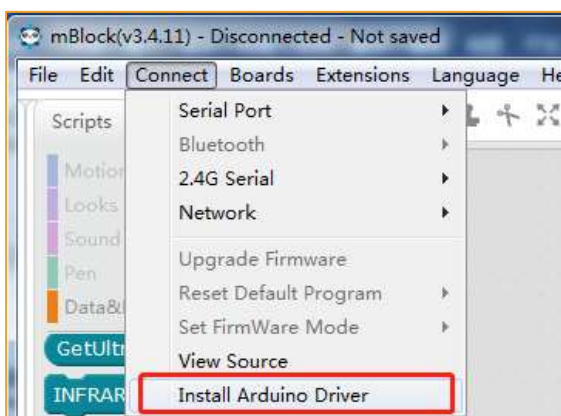
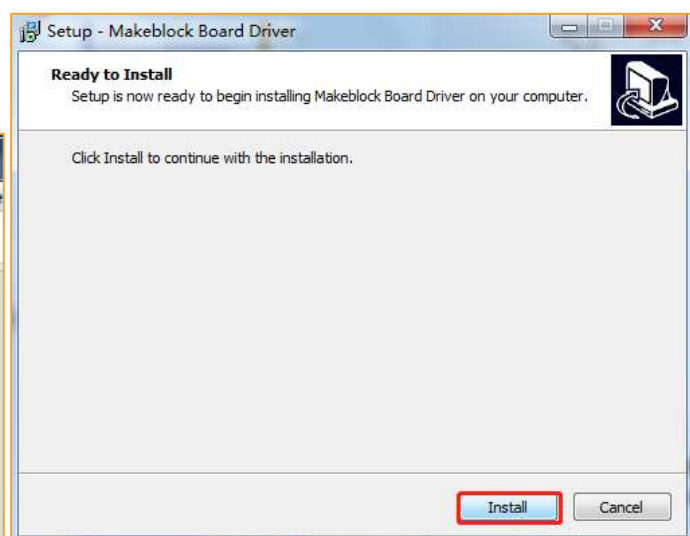

Figure 2-9
Figure 2-10
- 1) Install the MotorDriverBoard main control board driver, click “Connect→ Install MotorDriverBoard Driver” as shown in Figure 2-9; click “Install”, as shown in Figure 2-10, drive installation;
Open the serial monitor, at this point we will see the continuous printing of Hello Word on the serial monitor, as shown in Figure 2-10.